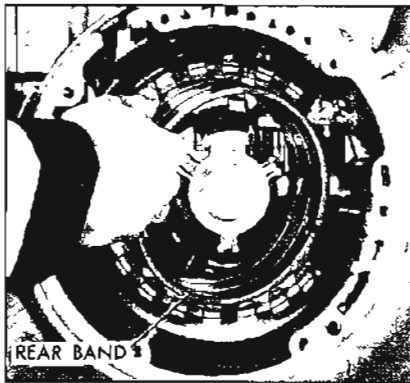

Figure 5-553
20. Remove the rear band assembly. See Figure 5-553.